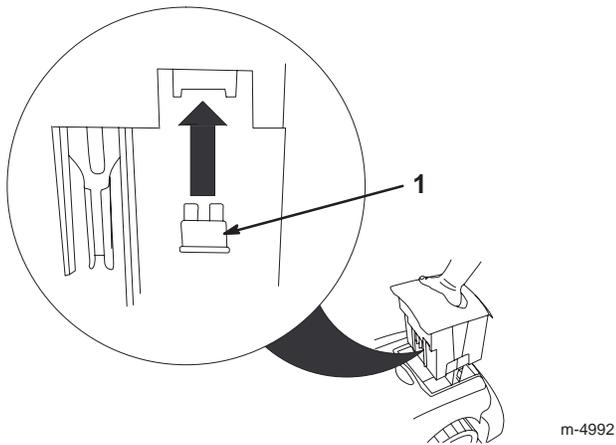

Figure 15
2. Install the fuse into the front of the battery pack as shown in Figure 15.